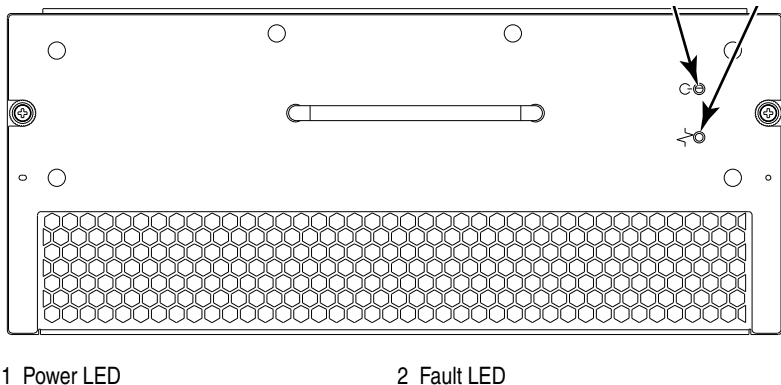

Figure 15 Blower assembly
1. Check the LED indicators on the blower assembly as shown in Figure 15. The LED patterns may temporarily change during POST and other diagnostic tests; for information about how to interpret the LED patterns, see Table 8 on page 81.
Figure 15 displays the blower assembly.